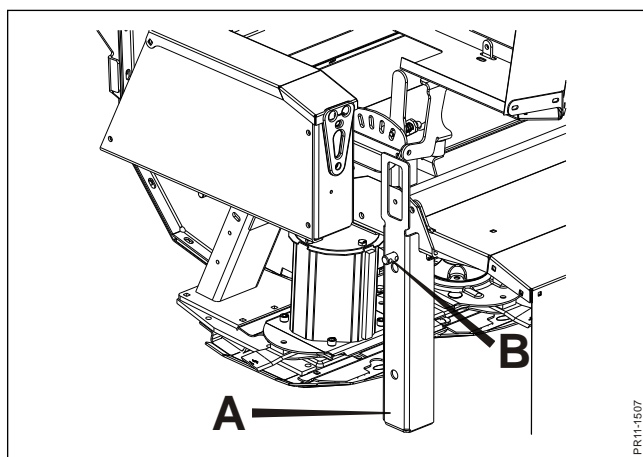

Fig. 3-16
**Fig. 3-16** The parking stand **A** is fastened at the right-hand side of the machine in the shown hole **B**. Now the machine can be lowered to the ground and disconnected as described in chapter 2.